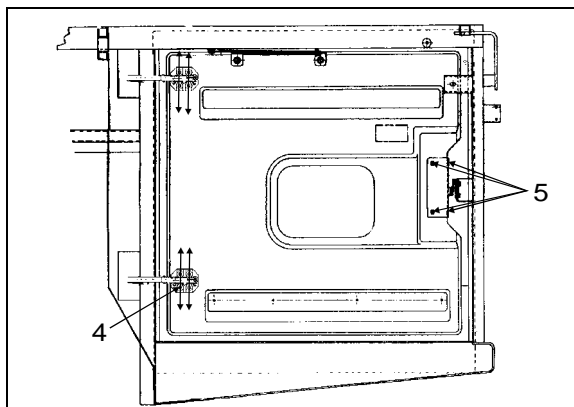

FIGURE 81: ENGINE COMPARTMENT R.H. DOOR
6. Adjust the door in accordance with the required distance between exterior finishing parts (Fig. 81).
8. Adjust the door position according to the distance required between exterior finishing parts (Fig. 81).